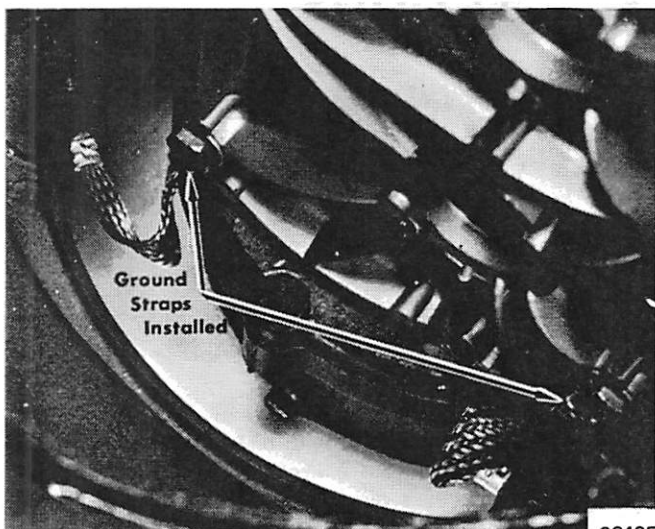

Figure 1. Ground Straps Installed
3. Remove the 2 lower cylinder block cover mounting screws. (Figure 1)
6. Place large ¼" (6.35mm) end ground strap on each lower cylinder block cover screw and replace screws. (Figure 1) Torque screws to 100 in. lbs. (17.75kg/cm).